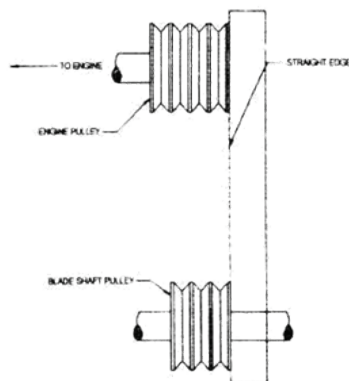

Figure 1
2. Take up tension until the belts are snug in the grooves. Run the drive for about five (5) minutes to "seat" the belts. Then impose the peak load. If the belts slip, tighten them until they no longer slip at peak load. Most new belts will need additional tensioning after seating.
6. To check alignment, use a steel straight edge. See Figure 1.
7. Line up the straight edge along the outside face of both pulleys shown in the drawing. All pulleys have (2) set screws in the bottom of their grooves. Set screws require thread locking lock title.